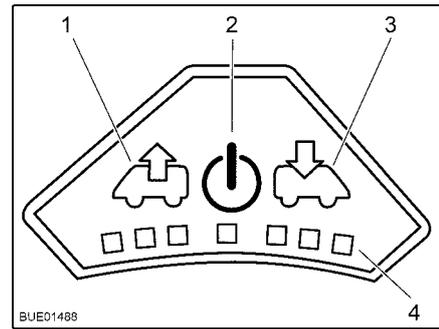

Fig. 87 Control panel for fan
- Switching on:** ■ Press the On/Off button (Fig. 87,2). The fan runs in comfort mode (venting at slowest fan speed).
- Venting:** ■ To increase the fan speed: Press the Vent button (Fig. 87,1). The fan speed in the venting direction increases by one level. LEDs (Fig. 87,4) show the operating levels.
■ To lower the fan speed: Press the Aerate button (Fig. 87,3). The fan speed decreases by one level.
- Aerating:** ■ To increase the fan speed: Press the Aerate button (Fig. 87,3). The fan speed in the aerating direction increases by one step. LEDs (Fig. 87,4) show the operating levels.
■ To lower the fan speed: Press the Vent button (Fig. 87,1). The fan speed decreases by one level.
- Press the On/Off button (Fig. 87,2). The fan stops, the LEDs go out.